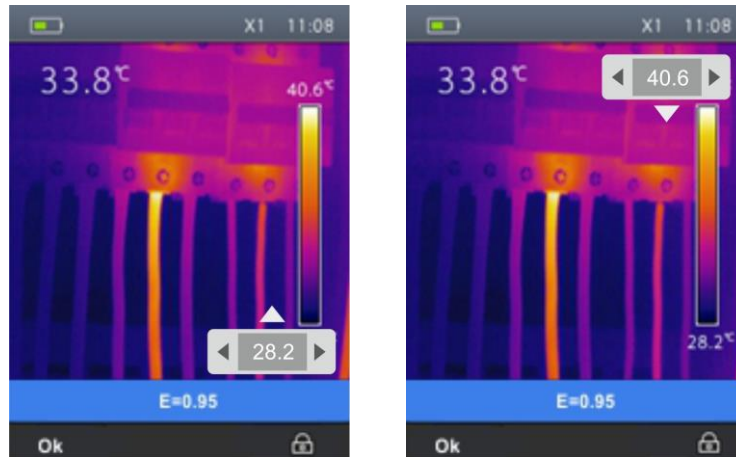

Fig. 28: Setting the adjustment mode of image temperature
2. Press and hold the  key for 2 seconds. The following screen (see Fig. 28 – Left side) is shown on the display.
3. Press the key  to go to the upper level of the color palette (see Fig. 28 – Right side).